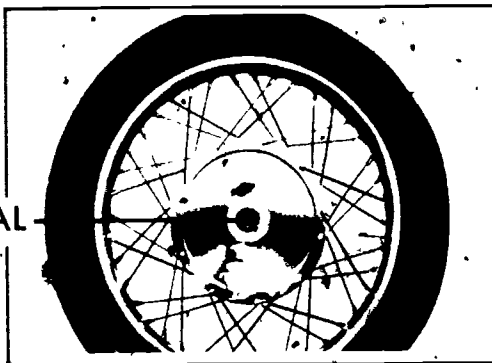

FIGURE 2
- B. Pry out wheel seals with pry bar (Figure 2)
- D. Fasten a small weight on a spoke directly opposite the lowest point on the wheel (Figure 2).